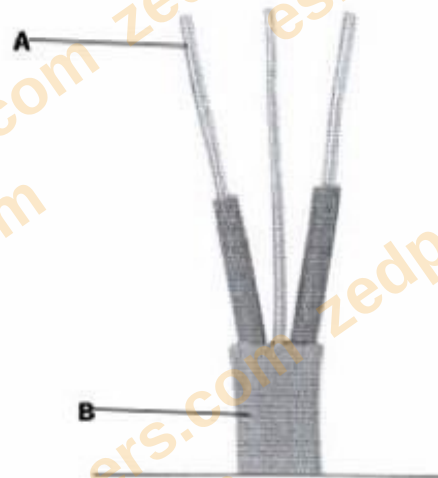

Figure 2
- 2 **Figure 2** shows some components used in Design and Technology.